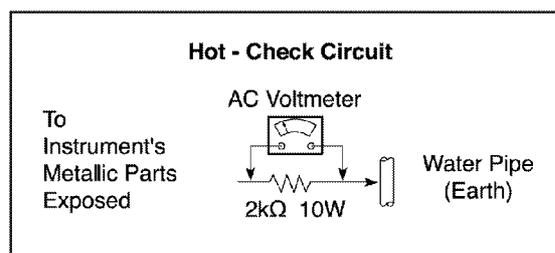

Fig. 1
| 1.3. Leakage Current Hot Check (Fig. 1) | 3 | 3 Conductor Views | 11 |
1.3. Leakage Current Hot Check (Fig. 1)